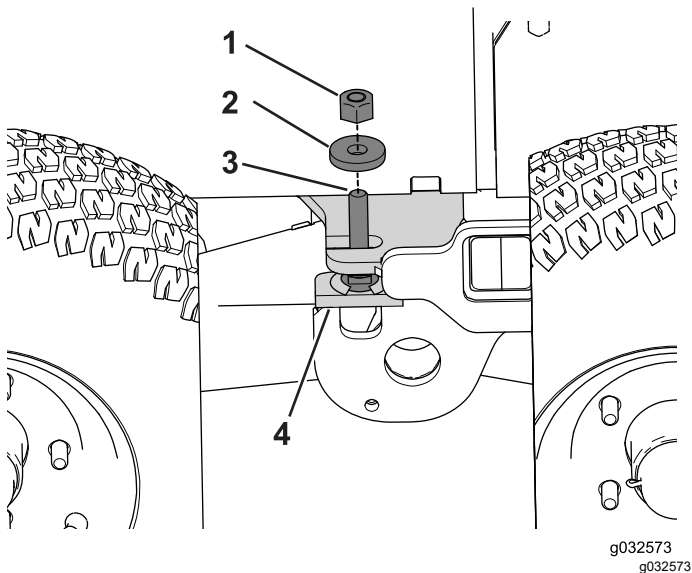

Figure 86
2. Remove the locknut and washer from the threaded stud on the bogie-stop assembly and set them aside (Figure 86).